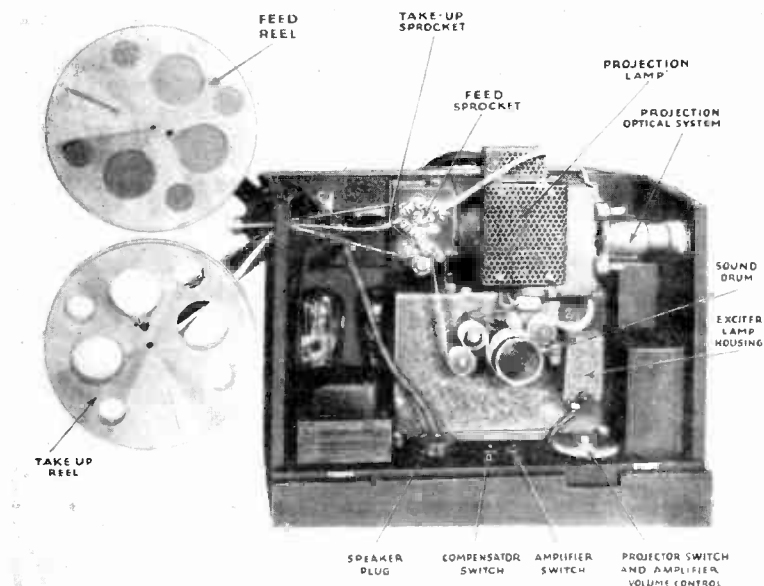

Fig. 15 - TYPE PG-29 PROJECTOR-AMPLIFIER SHOWING LOCATION OF OPERATING CONTROLS. (REFER ALSO TO PHOTOGRAPH ON FRONT COVER PAGE)
- (f) Projector not properly threaded. See Figure 15.
carrying position in the case. Attach the reel bracket as shown in Figure 15, with the larger pulley down, being sure that the thumb-screw is snugly tightened. Pass the belt over the take-up pulley on the reel bracket and see that the belt is properly seated in the belt rollers.
See that the amplifier a-c line switch is turned "off" and insert the loudspeaker plug into the receptacle provided in the base of the amplifier unit. See Figure 15.
Figure 15 shows how the film is threaded in the projector.
The path of the film is shown below in Figure 15. This corresponds to the diagram to be found on the inside of the cover of the unit. The new standard 16 mm. sound film now has a leader, that is, that portion of the film preceding the actual picture. This leader contains: first, between 24 and 30 inches of either transparent film or cream colored film (raw stock); second, 7-1/2 inches or more of transparent film bearing the film title and part number; third, and last, an opaque length of film a little over 15 inches long. These three sections of film leader are known as the protective leader, the identification leader, and the synchronizing leader, respectively.
- (b) Turn "on" the amplifier a-c line switch shown in Figure 15.
- (g) Just to the right of the amplifier a-c line switch will be found a "Speech Clarifying Switch" labelled "VOICE" and "MUSIC." See Figure 15. When the switch is in the "Music" position, music will sound full, rich, and natural, but speech may in some cases sound muffled. In these cases, it is advisable to set the switch in the "Voice" position, which will result in a reduction of the amount of bass tones reproduced and will thereby render speech more intelligible.